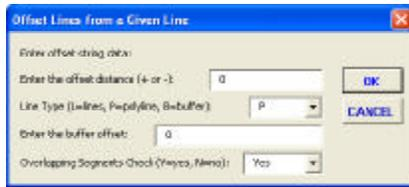

Figure 8
- 5b. Enter in the indicated data fields of Figure 8:
- **If they are**, an appropriate error message will be displayed. Once the warning message is dismissed, the dialog box of Figure 8